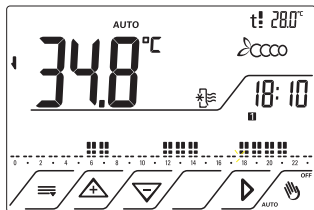
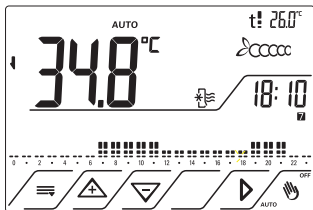

Fig.7
Fig.8
- Cooling Program from Monday to Friday fig.7 and from Saturday to Sunday fig.8.